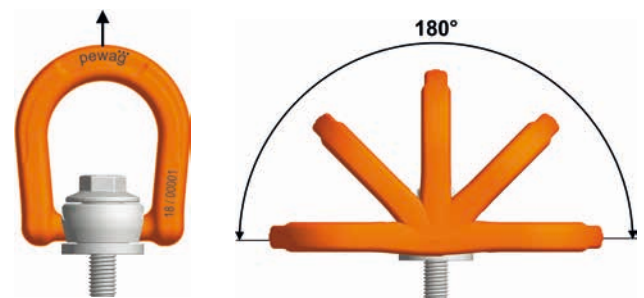

Fig. 1: Permitted directions of load that occur during correct use.
- The lifting point may only be loaded in the direction specified (fig. 1 in point 2 of this manual), at the maximum load capacity according to table 1 and in accordance with the conditions of use specified in point 2 this manual.
**Load:** The lifting point may only be loaded in the direction specified (fig. 1), at the maximum load capacity according to table 1 and in accordance with the conditions use specified in this manual.
- direction of pull is not within the indicated area (fig.1)